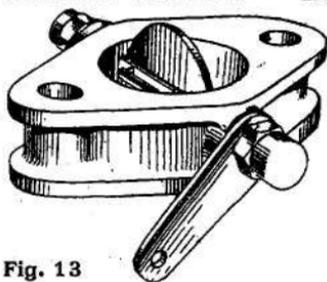

Fig. 13
**Governor Throttle.** — In order to provide for those cases in which the engine is governed, we can supply if required a special counterflange embodying a throttle which is operated directly by the governor (fig. 13).